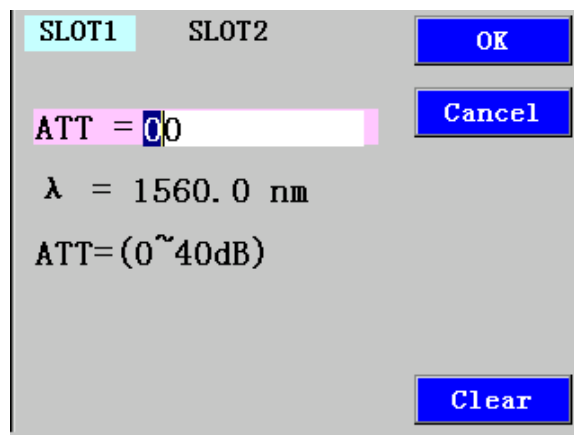

Fig. 24 Detail screen set the attenuation
- 2 Move to <ATT> parameter and press [Edit]. You see the screen in Figure 24.